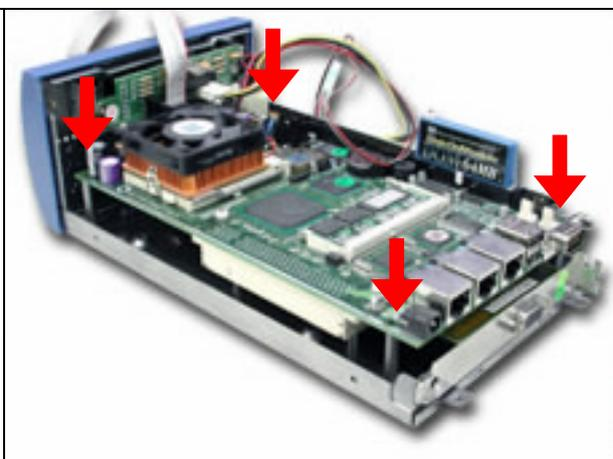

*Fig. 2-33 Push the PCI add-on card into the slot*
2. The back of the PCI card should be against the back of PPAP-200 (*Fig. 2-33, 2-34*).